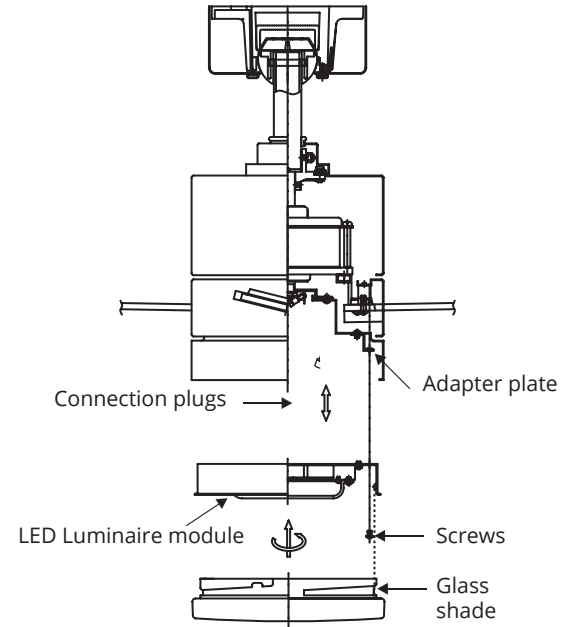

FIGURE 19
2. Raise and hold the LED luminaire module close to the adapter plate and proceed to secure the wire connections. Connect the white wire connectors from the luminaire module to the white wire of the fan. Follow the same procedure with the black wire connectors. (Fig. 19)
3. Tuck connections neatly into adapter plate. Place the luminaire module key holes over the 2 screws previously loosened from the adapter plate. Turn luminaire module until it locks in place at the narrow section of the key holes. Secure by tightening the 2 screws previously loosened and the one previously removed. (Fig. 19)